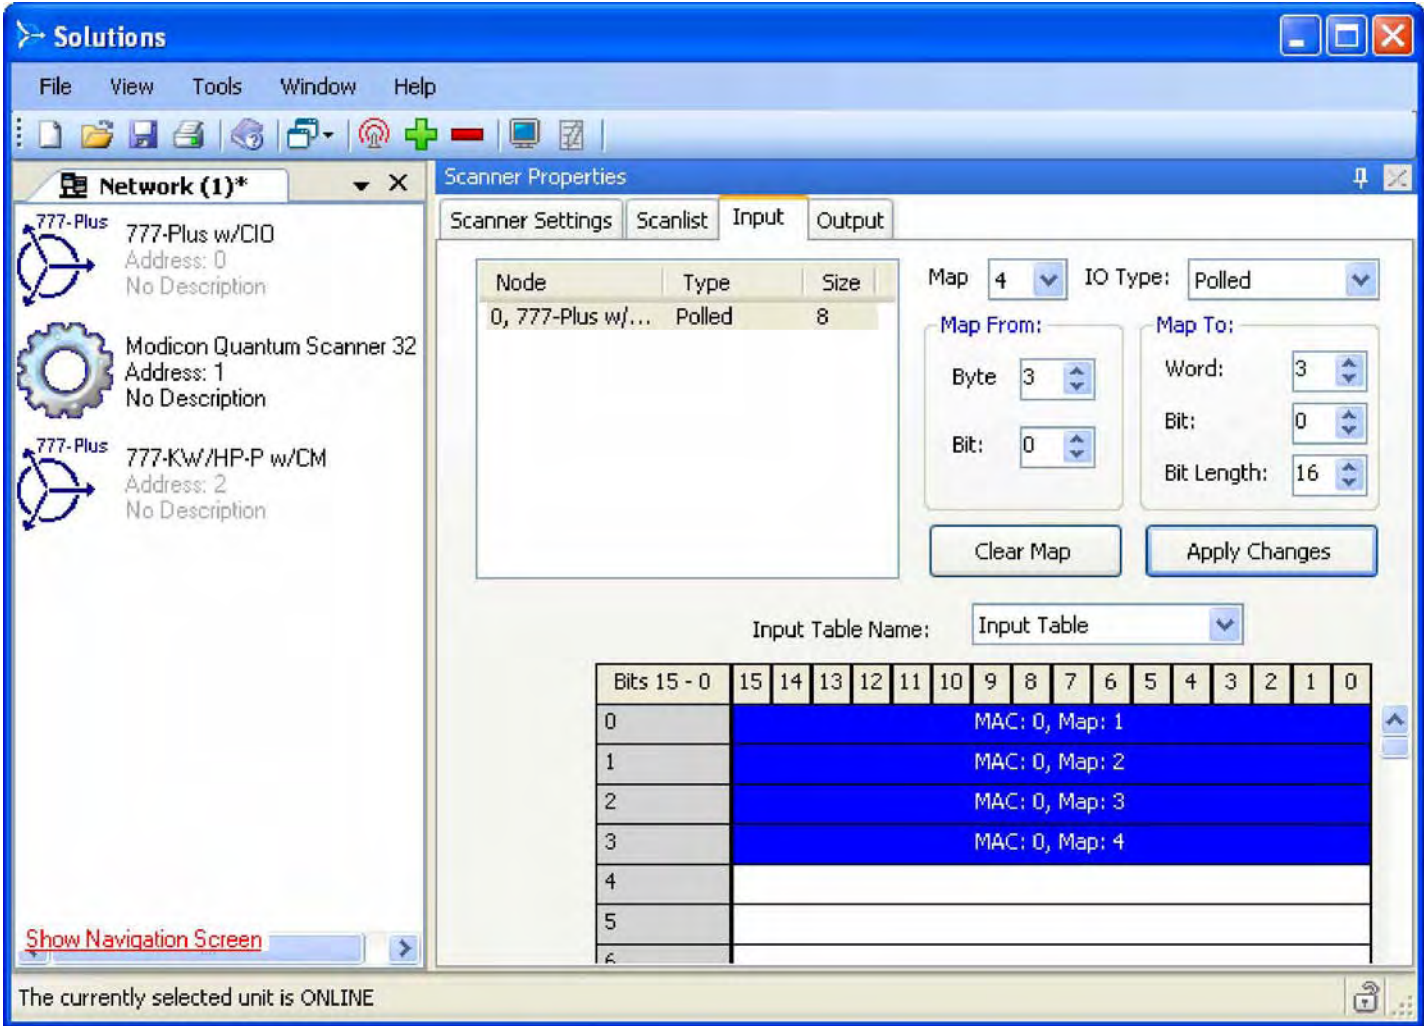

Figure 16-Input Map
- Step 23. Repeat Step 17 through Step 22 for all parameter to be mapped. In the case of input assembly 100 the user could map all 4 parameters; this is shown in Figure 16